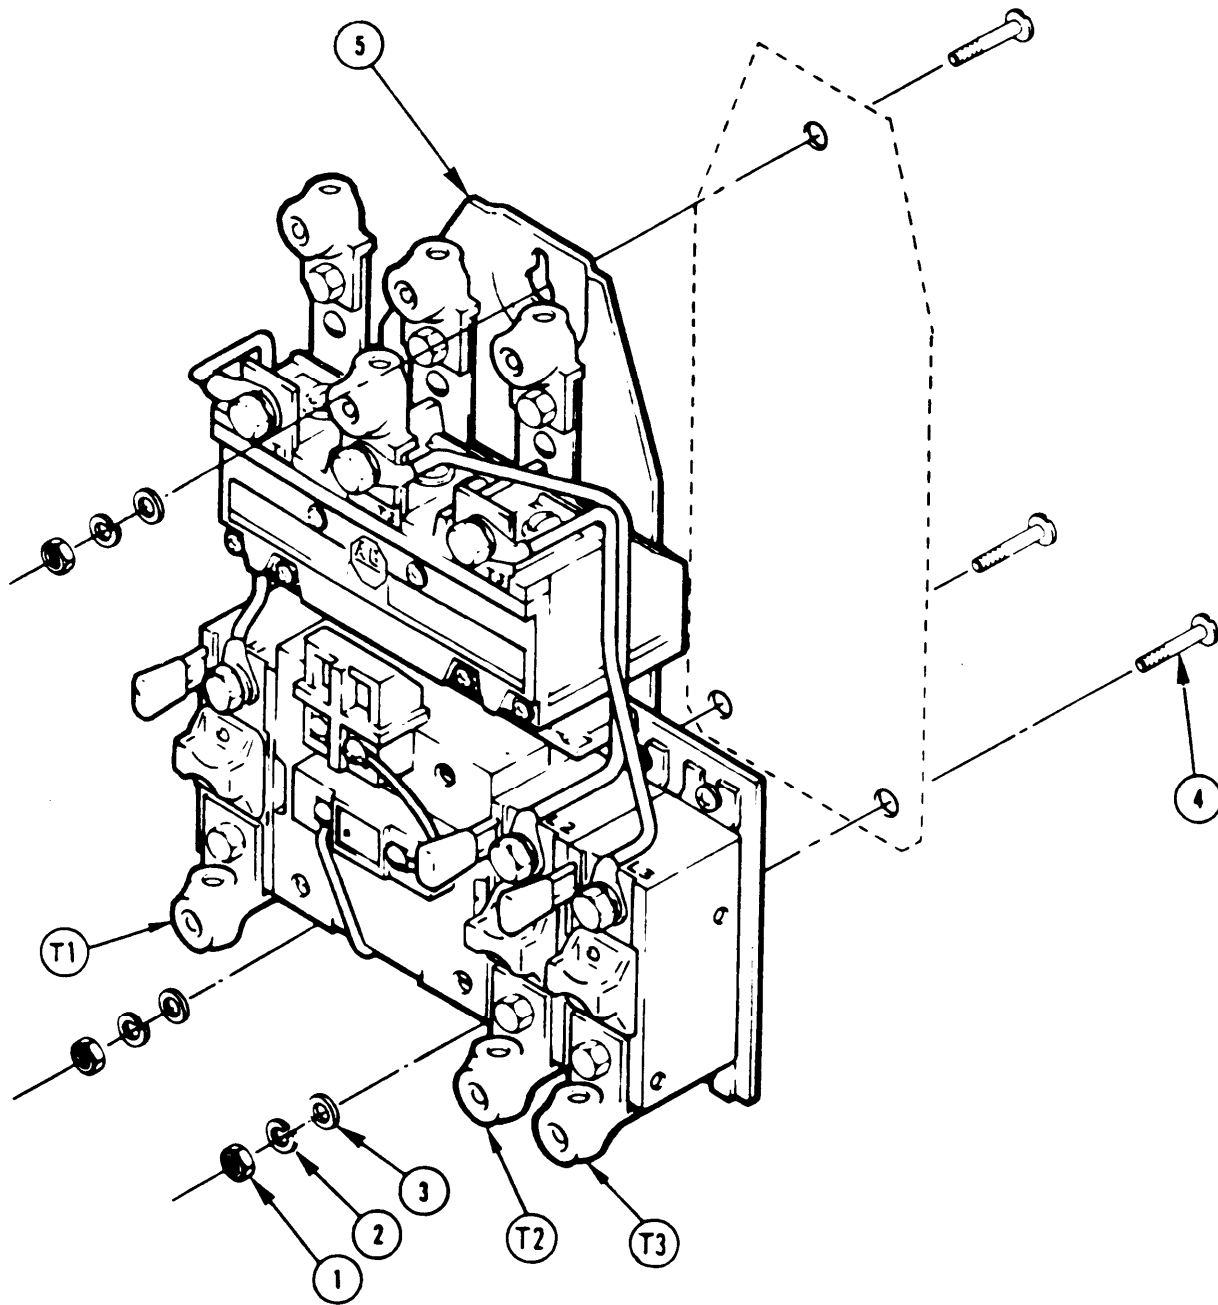

Figure 2-55. Motor Starter (Typical)
c. Motor Starter Removal. (Figure 2-55)
- (1) Replace damaged or worn electrical wires.
- (2) Replace all damaged nuts, bolts, screws, and washers.
- (3) Replace damaged or unserviceable motor starter.
- (4) Send damaged motor starter to Direct Support Maintenance for repair.
e. Installation. (Figure 2-55)
- (1) Hold motor starter (5) in place.
- (2) Insert three screws (4) in junction box assembly and motor starter (5).
- (3) Install three flat washers (3), three lockwashers (2), and three nuts (1) on screws (4).
- (4) Connect all external wires to motor starter (5).